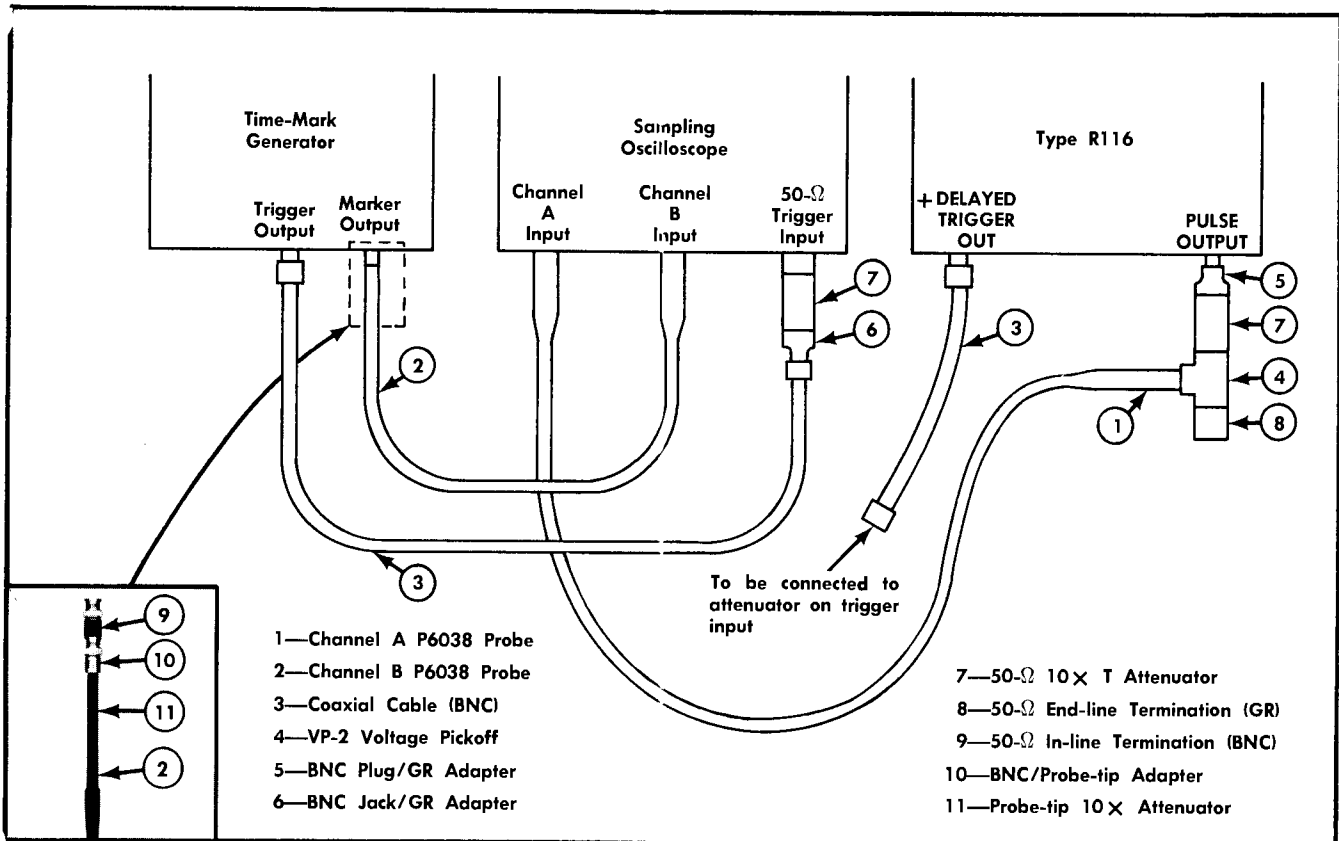

Fig. 6-12. Suggested connections for observing the time-mark signal and the Type R116 output pulse with the sampling oscilloscope.
c. Connect the Type R116 output pulse to the sampling oscilloscope Channel A vertical input as shown in Fig. 6-12.
e. Connect the marker output from the time-mark generator to the sampling oscilloscope Channel B vertical input as shown in Fig. 6-12.
f. Connect the trigger output from the time-mark generator to the sampling oscilloscope External Trigger Input as shown in Fig. 6-12.